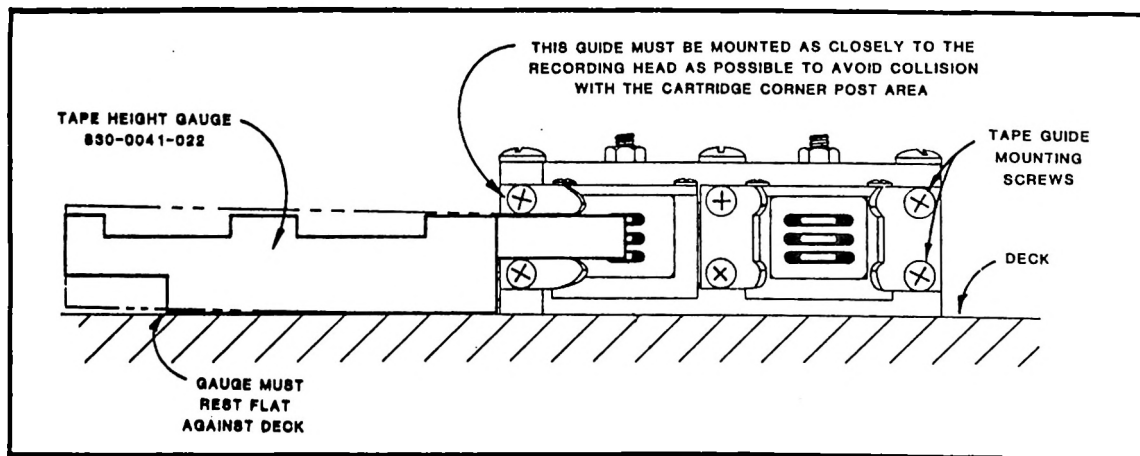

Figure 3-15
- a. Position the gauge in front of the face of the head as the tape would be positioned if it were being played as shown in Figure 3-15.